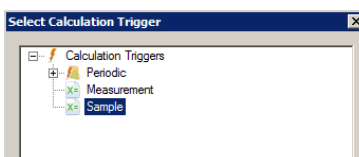

Figure 6 Select the Sample Trigger
- Click on the button for the Trigger selection to open the trigger browser as shown in Figure 6.